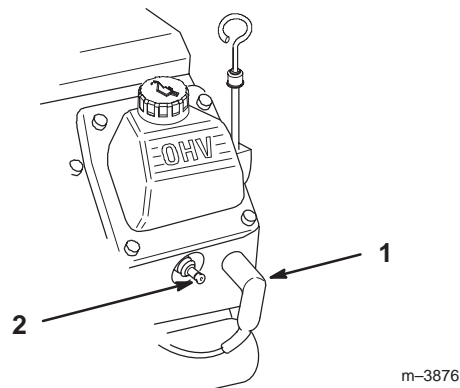

Figure 28
2. Pull the wires off of the spark plugs (Fig. 28).
3. Push the wires onto the spark plugs (Fig. 28).